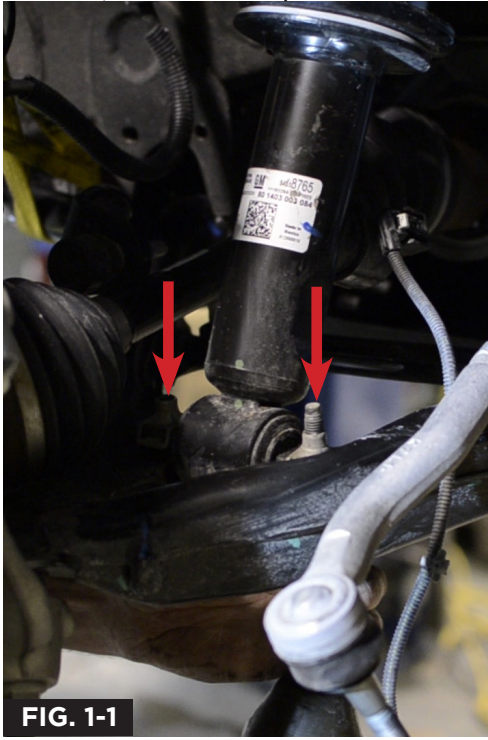

FIG. 1-1
6. Remove 2 lower strut mounting bolts with a 15mm socket. **(Fig 1-1)**